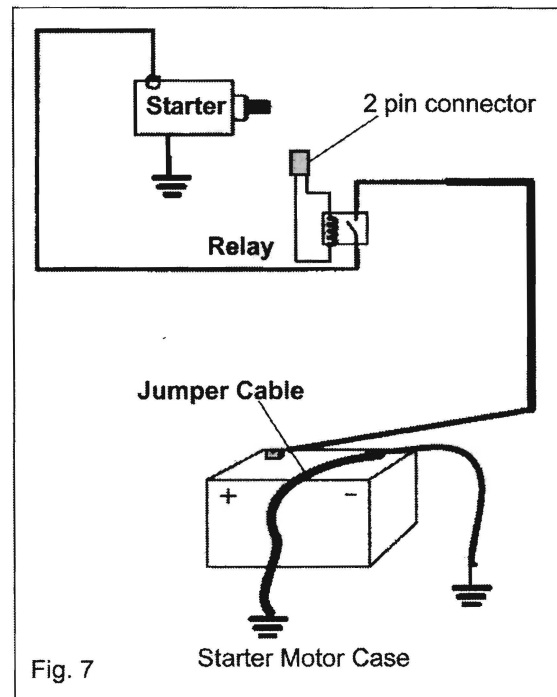

Fig. 7
3. Connect one clamp of an automotive type jumper cable (heavy gauge jumper cable) to battery negative post. (Fig. 7)